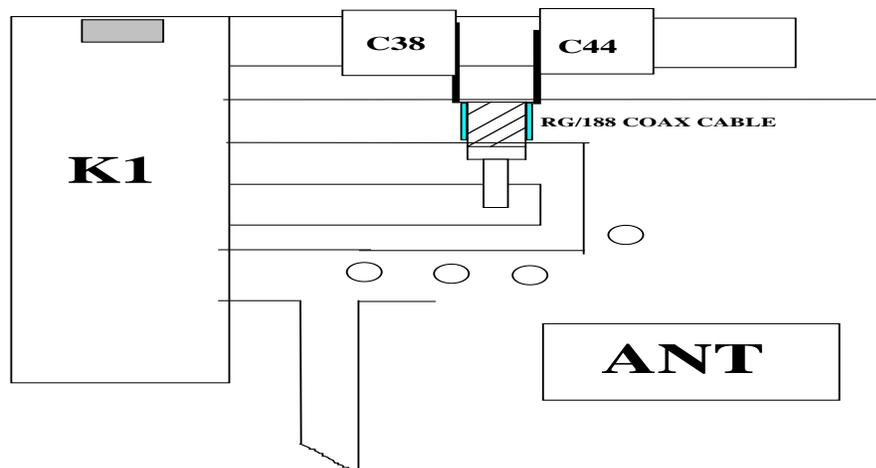

Figure 7 Coaxial Cable mounting on PCB shaded areas are solder points
- Position the end with the pre-tinned shield on the circuit board by placing the center conductor on the circuit soldering pad labeled "ANT". This circuit is located near relay labeled K1. Angle the coax so that it is facing capacitors C38 and C44. (See Figure 7)